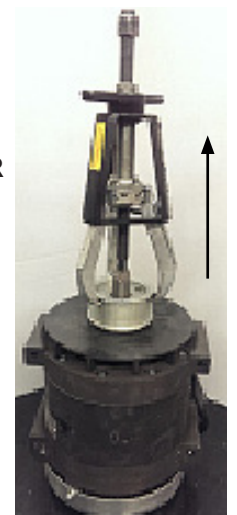

Figure 3
3. Remove pulley by lifting it off shaft. If pulley is stuck, use a pulley puller to remove it. See Figure 3.